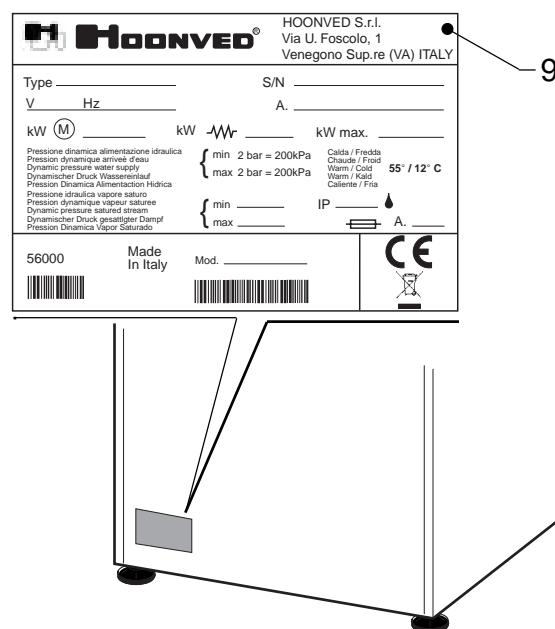

Fig. 5
- **Before connecting to the electricity main, always check that the data pertaining to the power source correspond to those indicated on the identification plate (pos. 9 Fig. 5) and that the main electric power switch installed prior to the machine is disconnected "0" OFF.**